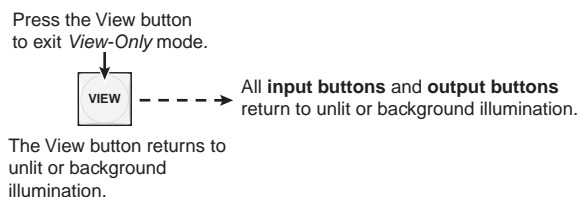

Figure 3-55 — Press the View button to exit View-Only mode
6. Press and release the View button to exit **View-Only** mode (figure 3-55).